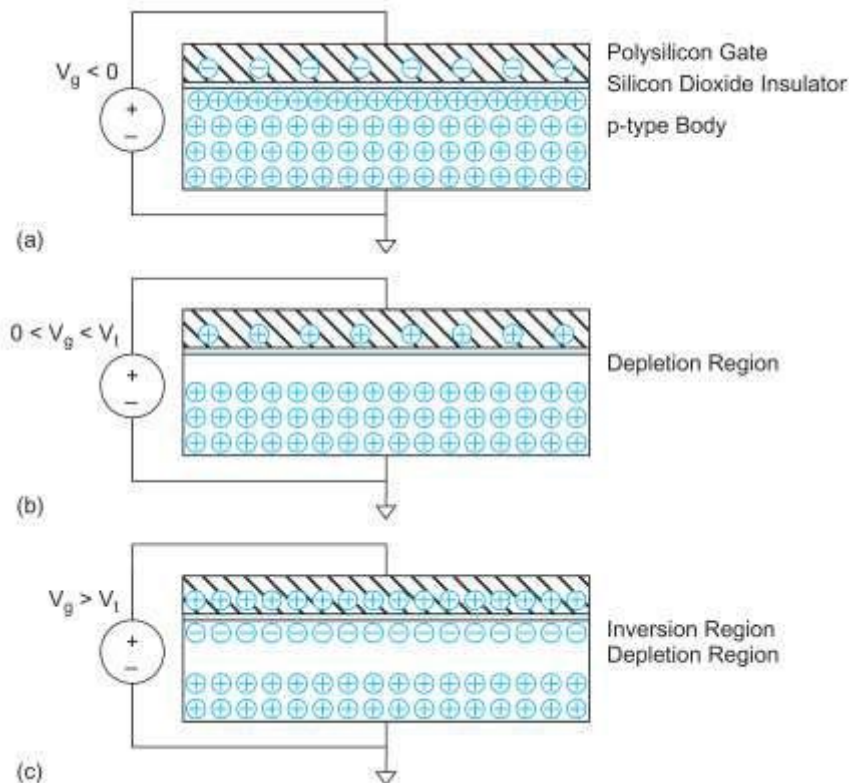

Figure 2: MOS structure demonstrating (a) accumulation, (b) depletion, and (c) inversion layer
- ✓ Figure 2 shows a simple MOS structure. The top layer of the structure is a good conductor called the gate.
- ✓ The figure 2 shows a p-type body, in which the carriers are holes. The body is grounded and voltage is applied to the gate.
- ✓ In Figure 2(a), when a negative voltage is applied to the gate, negative charges are formed on the gate.
- ✓ In Figure 2(b), when a small positive voltage is applied to the gate, positive charges are formed on the gate.
- ✓ In Figure 2(c), when a higher positive potential greater than threshold voltage ( $V_t$ ) is applied, more positive charges are attracted to the gate.